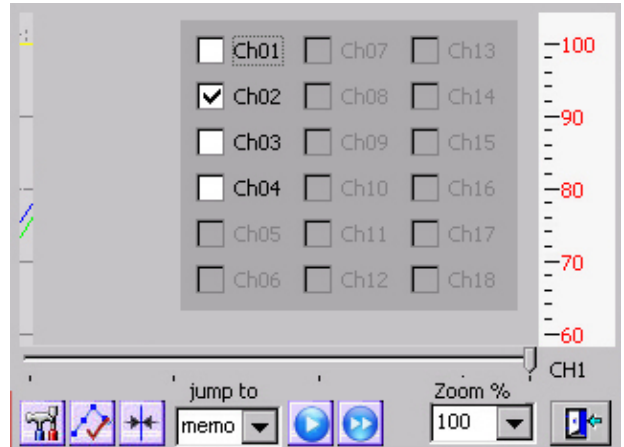

Figure 4-13.3 Trace Setup
**Go** – Proceed to the (next) instance of the ‘jump to’ drop down dialog (memo in Figure 4-13.3). Jump options are memo, time, Ymax and Y min. See below.
**Go from Start** – Start at the beginning of data (most recent) and proceed to the next instance of the ‘jump to’ drop down dialog (memo in Figure 4-13.3)
Trace Setup – Tapping this icon will bring up the Trace Setup screen (see Figure 4-13.3), which enables the user to shut off traces on the display. Those traces not on the original trend will be grayed out. Check the box next to the trace you want displayed, uncheck it to remove the trace from the browse trend. Traces can be turned on or off at any time.